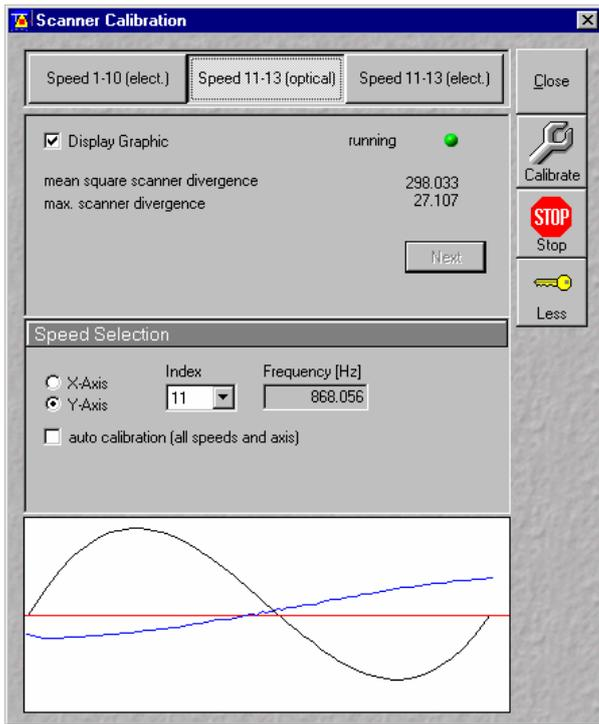

Fig. 4-275 Scanner Calibration window
- After calibration of X-axis the orientation of the calibration grid in the calibration window changes from horizontal to vertical orientation. The second grid of the calibration sample has to be selected and again positioned as indicated in Fig. 4-275. Click on the **Next** button and continue with Y-scanner calibration.